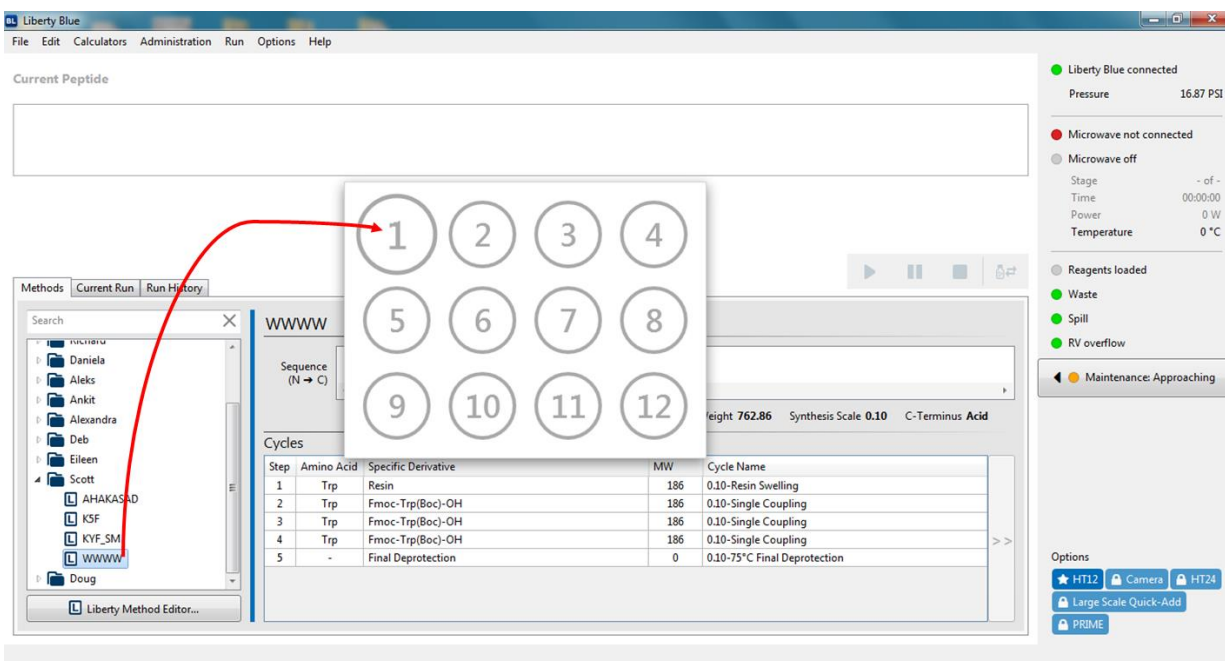

Figure 8. Drag peptide sequence to a position on the HT12.
10. Drag each peptide sequence to be synthesized during the batch from the method menu into a free position on the loader. (Figure 8). They will turn blue and pulse.